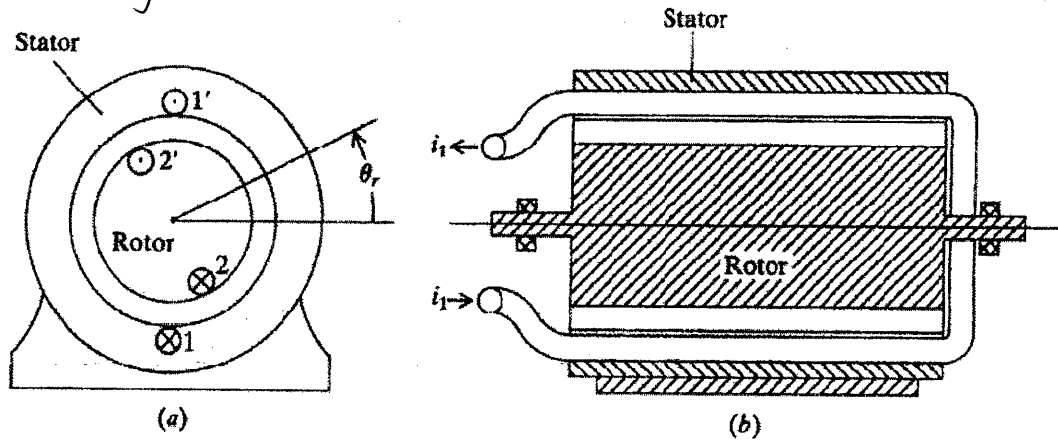

Fig. 1
Q. 1. b) Derive the relationship of variables between one reference frame rotating at  $\omega_x$  and another at  $\omega_y$ . (07)
Q.1.c) Explain the advantages of dynamic models of electrical machines. (06)
Q. 2 a) Explain the energy conversion principal graphically. (10)
Q. 2 b) Derive an expression for the electromagnetic torque of the elementary rotational device as shown in Fig. 1. This device consists of two conductors. Conductor 1 is placed on the stationary member and conductor 2 is placed on rotor. (10)
①
①/5